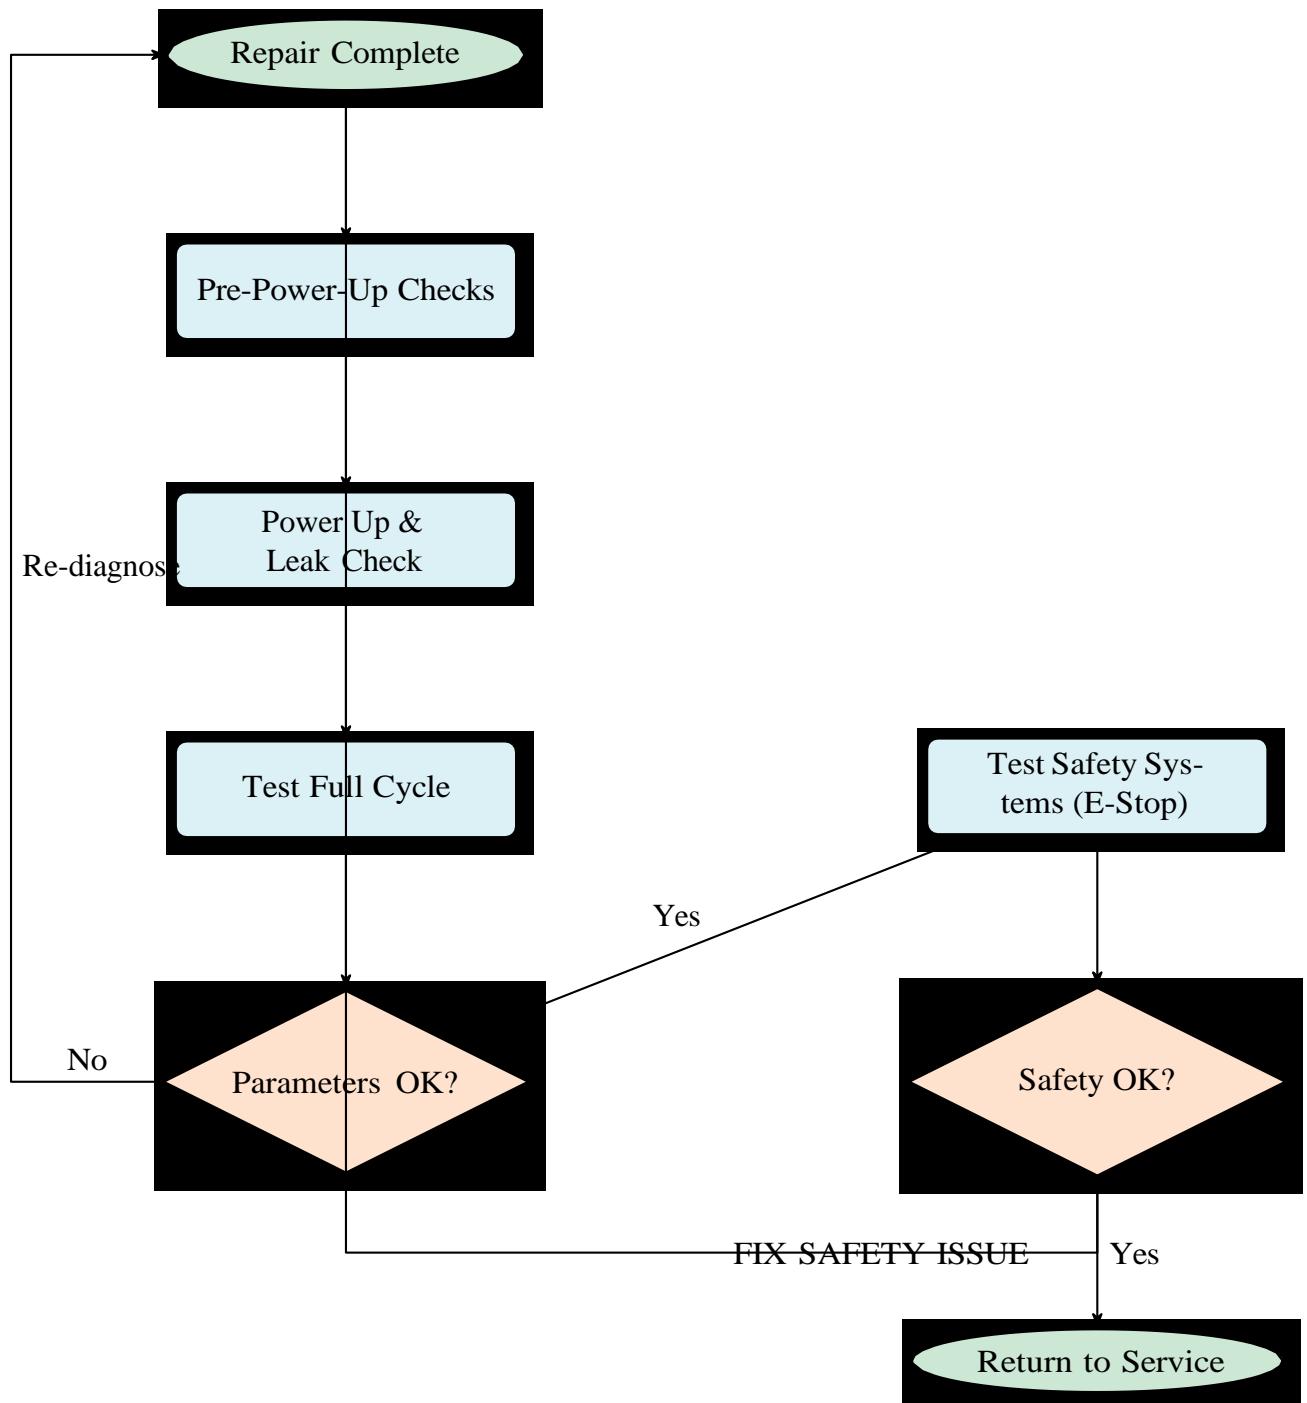

Figure 8.9: Flowchart for the post-maintenance verification process.
**2. The Verification Procedure** A professional verification process follows a strict sequence, as shown in Figure 8.9.